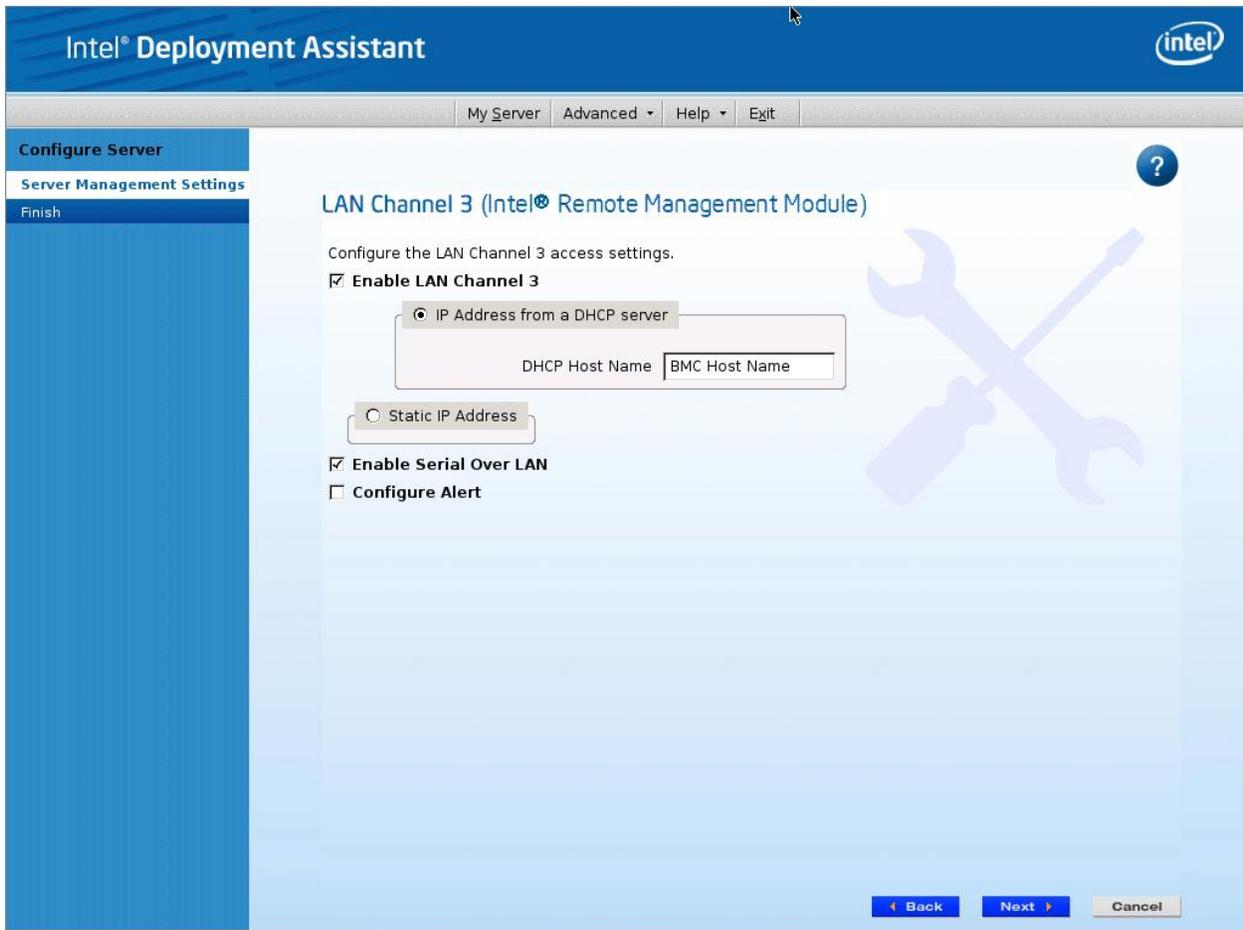

Figure 18: IDA Configure Server: Configure LAN Channel 3 (Intel® RMM4 DMN) IP Address from a DHCP server window
- a. If **IP Address from a DHCP Server** is selected configure the **DHCP Host Name** as shown in Figure 18.